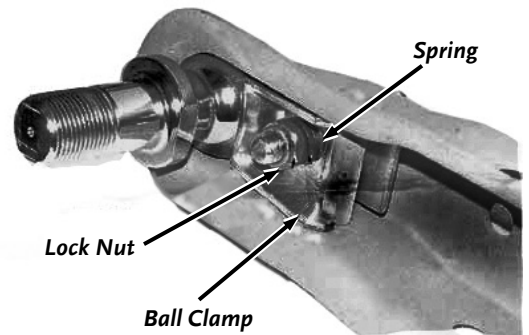

Figure 55
1. With the proper size ball in the socket of the hitch coupler, close the latch of the coupler completely (**Figure 55**). Verify that the locking trigger is properly engaged in its detent.